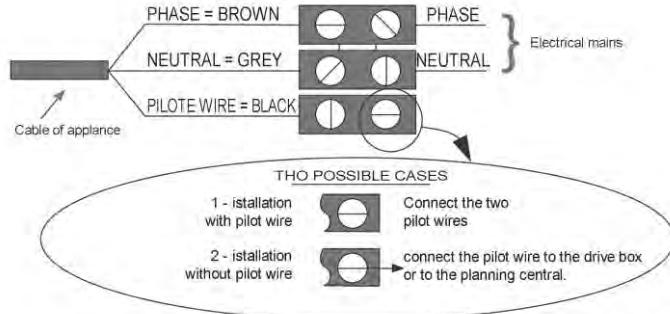

Fig. 5
**Strictly observe the connection diagram (Fig. 5)**